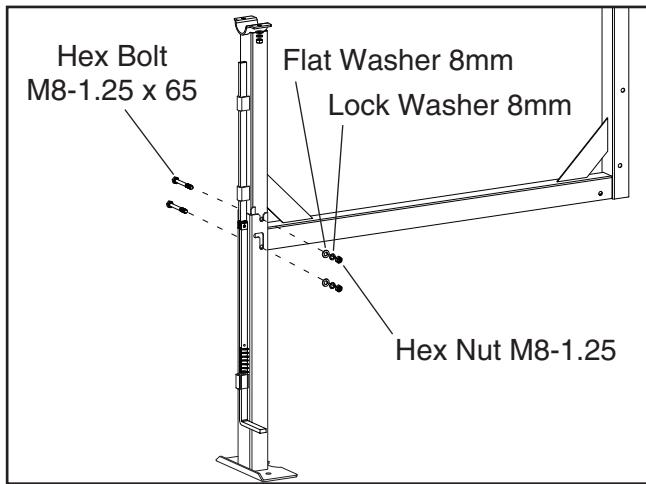

Figure 4. Support leg installation.
2. Attach the support leg to the frame with two M8-1.25 x 65 hex bolts on one side and two 8mm flat washers, lock washers, and hex nuts on the other side (**Figure 4**).